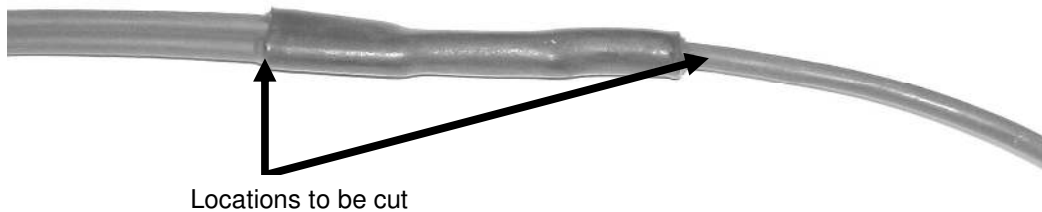

Figure 3
- Locate the area of the brown wire in pin # 13 where the two brown wires join. This section has approximately 1.5" of heat shrink. Cut the wires on both sides of the heat shrink. Discard the brown wire with the 90 degree flag terminal attached. See figure 3.